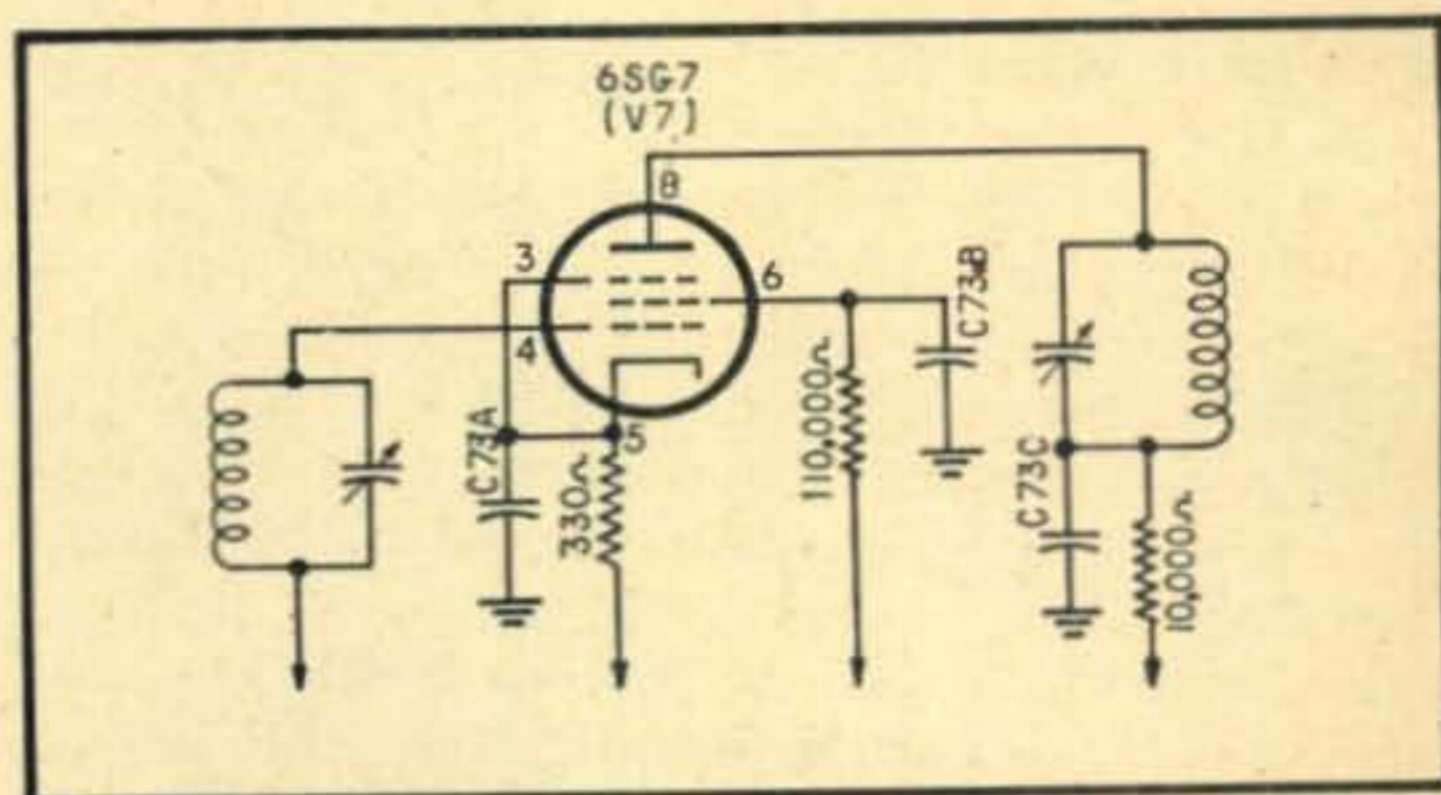

Fig. 2. The hopped-up 1st I.F. stage.
2. If additional i.f. gain is desired, the second 500 kc i.f. stage may be opened up a bit. It is biased back rather heavily. On socket V7 replace R-30 (the 560 ohm cathode resistor) with a 330 ohm resistor of the same wattage. Replace R-32 (120,000 ohm plate resistor) with a 10,000 ohm resistor of the same wattage. Also, replace R-31 (screen resistor) with a 110,000 ohm resistor. These changes will give an appreciable increase in receiver gain with no danger of oscillation in the i.f. amplifier. See Fig. 2.